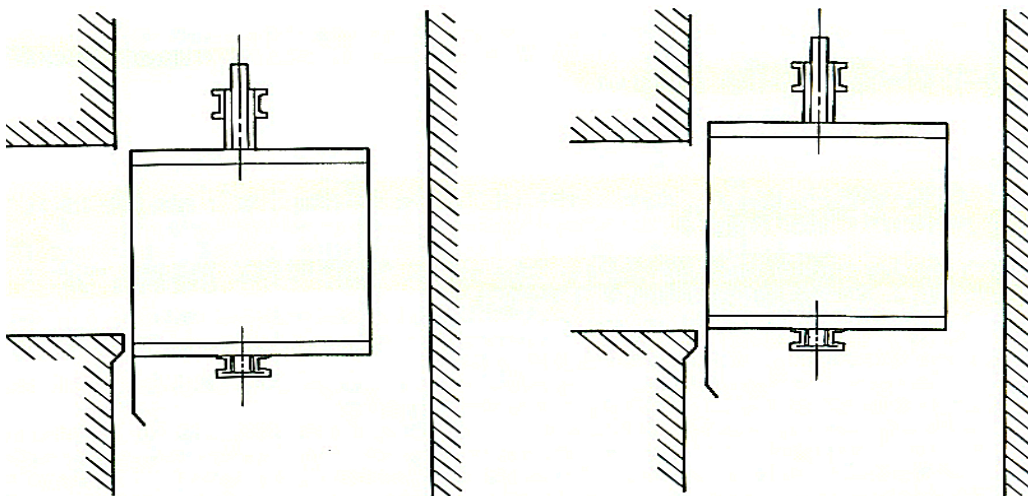

FIG. 1-1. CAR AT OR NEAR LANDING
1.22.1 Procedure when car is at or near the landing: (See Fig. 1-1.)